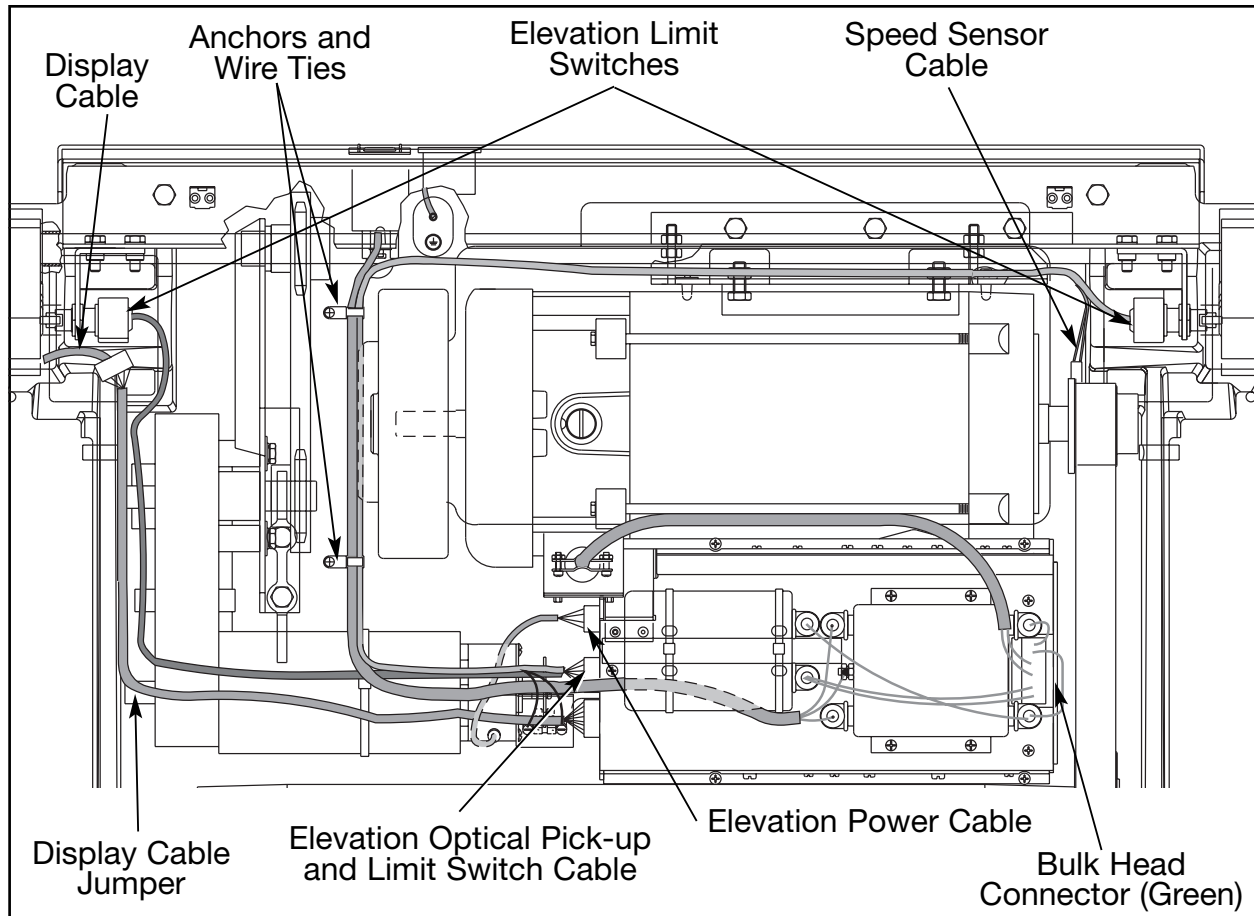

Figure 10
- C.** Disconnect the bulk head connector (green connector) from the PWM module. See Figure 10.